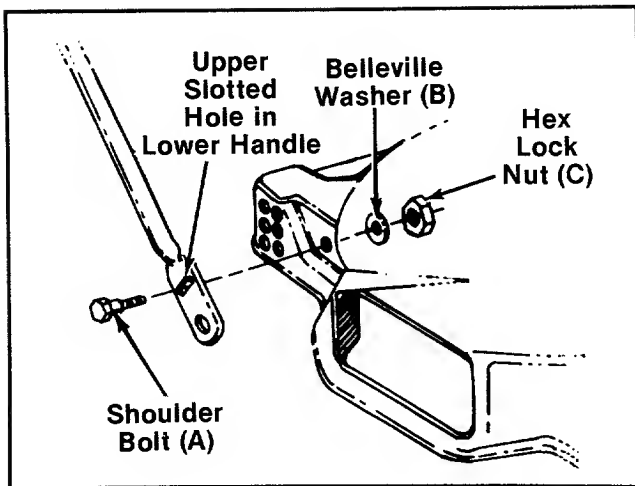

FIGURE 3.
- A. Line up the upper slotted hole in lower handle with the mounting hole on deck. Make certain the instruction label on the lower handle can be read from the operating position. Place shoulder bolt (A) through lower handle and deck. See figure 3. Place belleville washer (B) on the shoulder bolt, with the cupped side of the washer against the deck. Secure with hex lock nut (C).